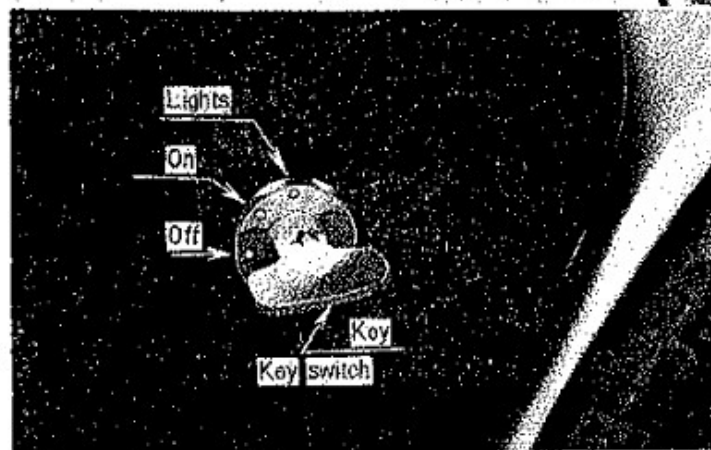

Fig. 3
- (3) Turn key to "on" position. (Fig. 3)